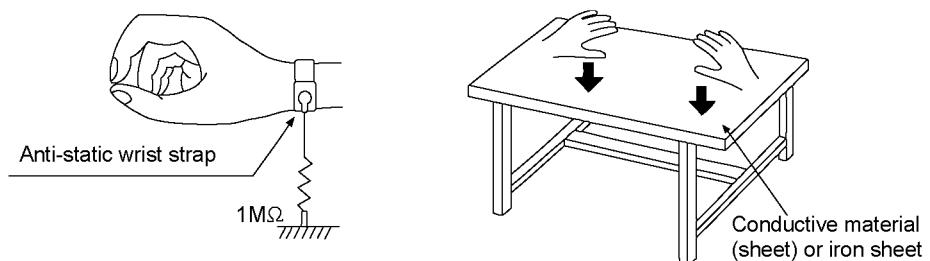

Figure 2-3
- Use the anti-static wrist strap to discharge the static electricity form your body (Figure 2-3).